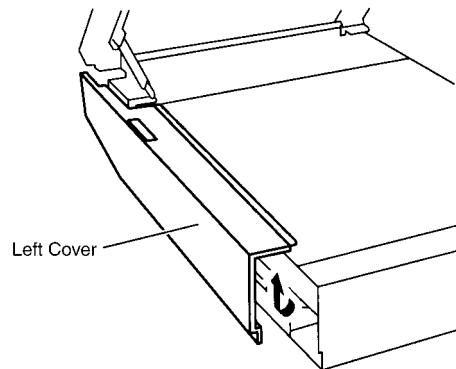

Fig. 4-4
- 4) Lift Left Cover up, as shown in Fig. 4-4.